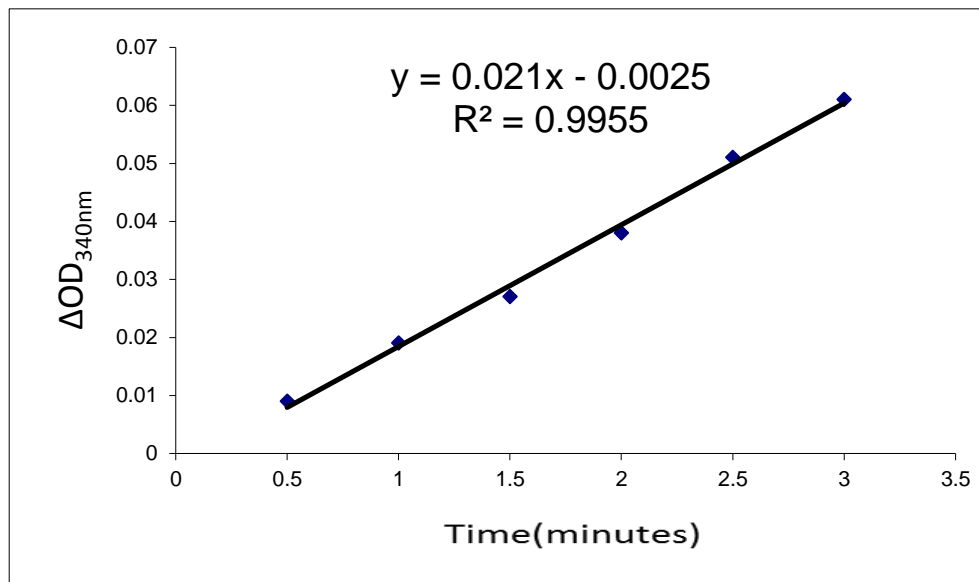

Figure.2 The change in absorbance ΔOD_{340nm} of diluted GPDH positive control during the time at 340nm.
1. Determine the change in absorbance $\Delta OD_{340nm}/min$ by plotting the absorbance value at ΔOD_{340nm} as a function of reaction time to obtain the slope of the linear portion of the curve. As shown in Figure.2.